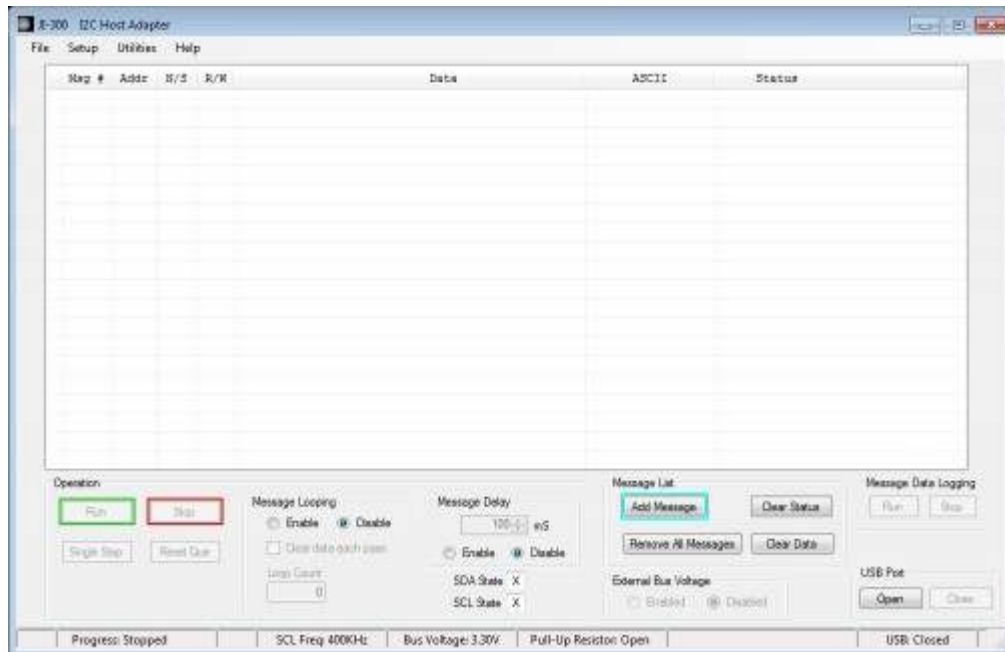

Figure 1. I2C Host Adapter Main Window
3. Verify that the I2C Host Adapter main window is displayed as shown in figure 1.
- c. **Comment instruction:** **Comments** are passive instructions used to add text comments to the Message List. Comments are added via the **Add I2C Message** window by selecting the Instruction Message Type and making a selection from the Instruction Set pull-down menu. (See Figure 1)